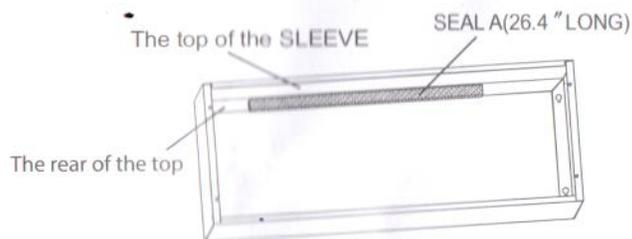

Fig. 5
- Attach the SEAL A and SEAL B to the SLEEVE at proper position as shown below.(See Fig.5, Fig.6 and Fig.7)